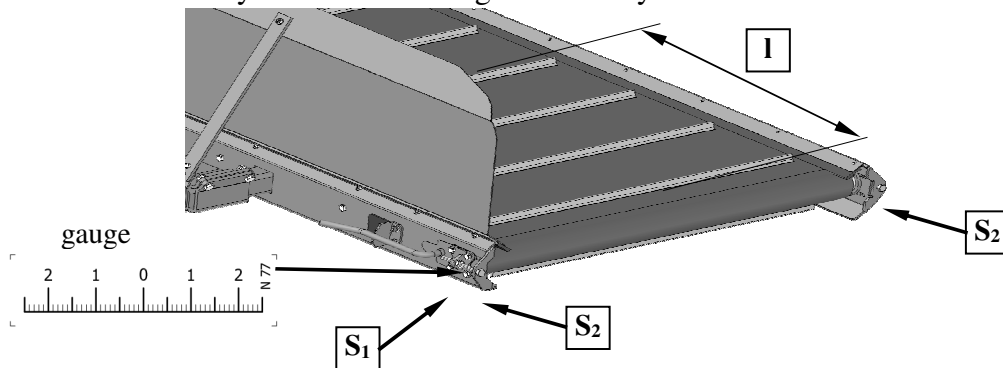

Fig. 41.
1. Mark two lines on newly mounted belt in intervals of $l = 3.9''$ (**Fig. 41**).